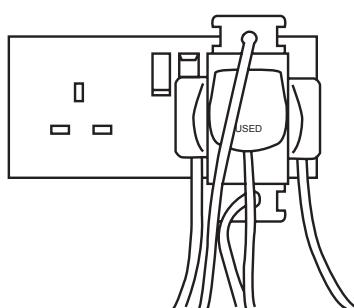

Figure 4.13 Overloaded mains supply socket
- Connecting multiple appliances to a single mains socket via multi-way adaptors, as shown in Figure 4.13, forces parts of the wiring to carry the sum of the currents used by all the connected appliances. If this sum exceeds the current rating of the wires involved, overloading will occur.